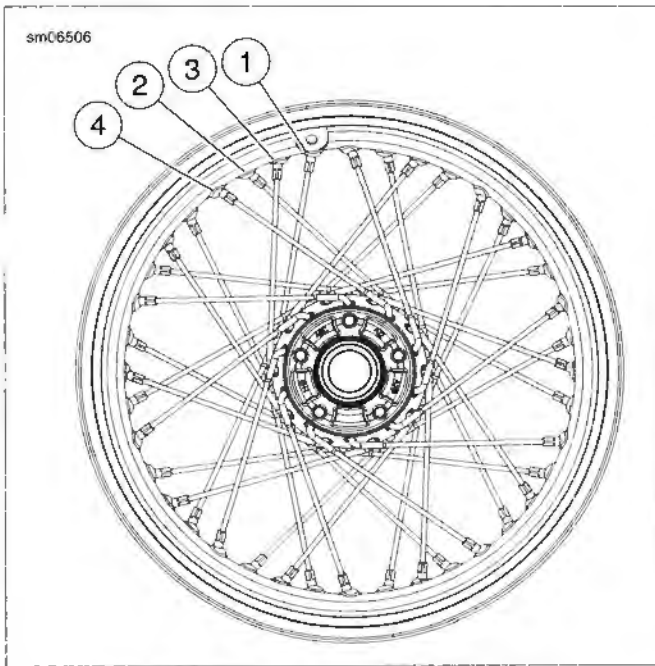

Figure 2-20. Side Valve Rim
- a. See Figure 2-20. Rim with side valve hole: start at the valve stem hole (1).